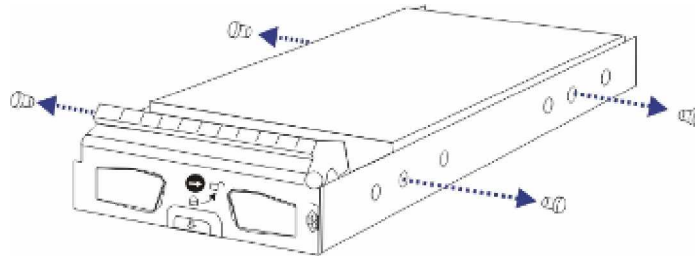

Figure 5-33: Loosening the Hard Drive Screws
**Step 5. Remove the four (4) retention screws** located on the sides of the drive tray (two on each side.) (See *Figure 5-33*)